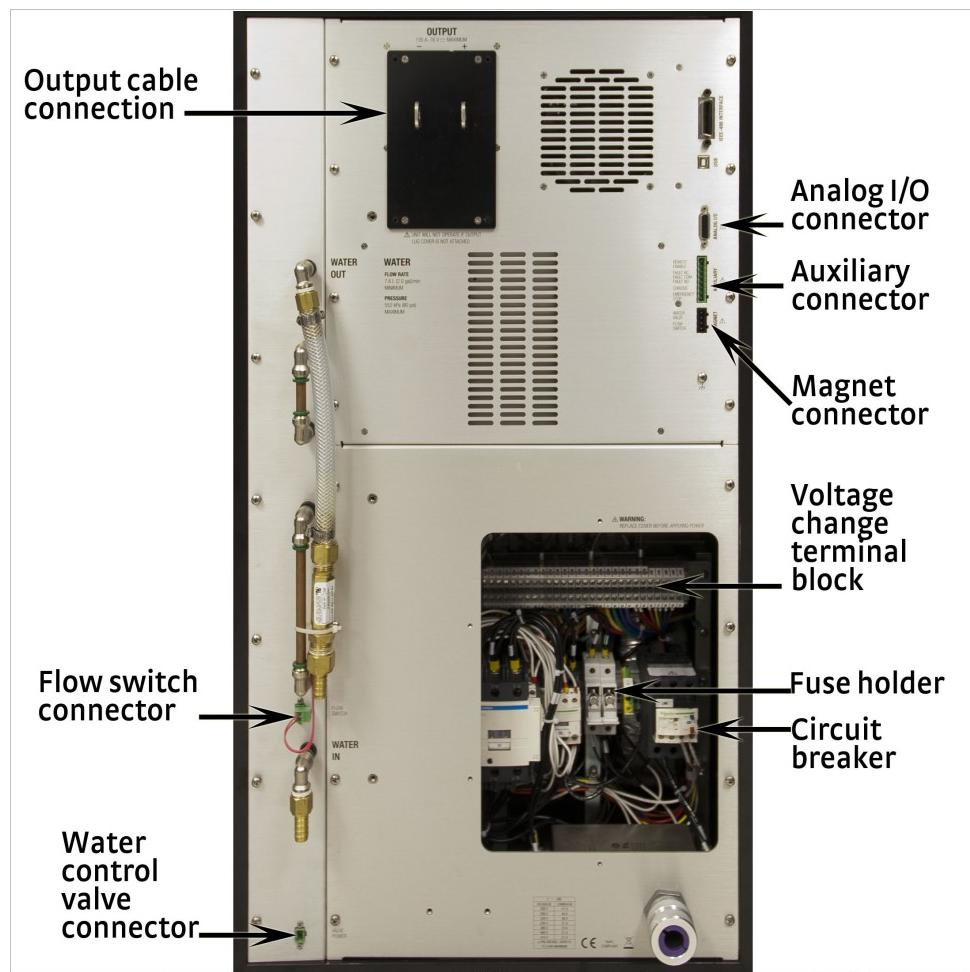
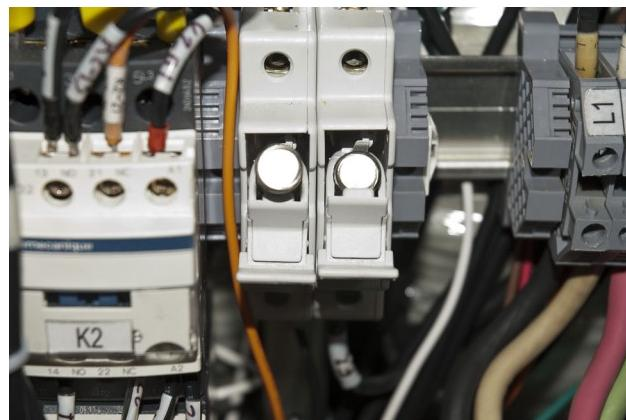

FIGURE 6-2 Model 648 rear panel : Left: Bottom half (shown with wiring cover removed); Right: Top half
FIGURE 6-5 Fuse drawer
The Model 648 may be configured for seven basic AC power configurations: 200 VAC, 208 VAC, 220 VAC, 230 VAC, 380 VAC, 400 VAC, and 415 VAC. Proper voltage selection must be made before connection to the power mains. Each configuration requires the appropriate wiring within the power wiring access panel on the rear of the instrument. Nominal line voltages and appropriate selections are shown in TABLE 6-1. Refer to section 3.4.1 for further details. See FIGURE 6-2 for general locations.
5. Refer to FIGURE 6-2 to locate the fuse detailed in FIGURE 6-5.
5. Locate the two fuse holder assemblies as shown in FIGURE 6-2 and in FIGURE 6-5.
7. Check the fuse for continuity. Replace fuse(s) if necessary. Fuses should be replaced in pairs. Fuses are inserted small-end first as shown (FIGURE 6-5).